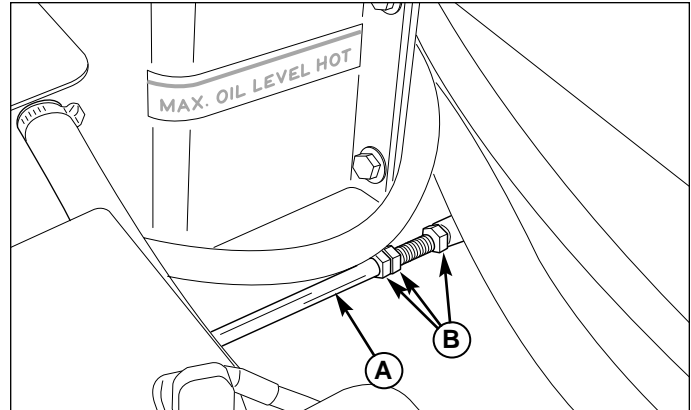

Figure 27. Neutral Adjustment
2. There are three (3) nuts on the linkage rod. The first two are to be used together to turn the rod and the third (towards the rear of the machine) is used to lock the rod in place. Loosen the third jam nut (B, Figure 27) and turn the adjustment linkage (A, Figure 27) to adjust. If the machine creeps forward, turn the linkage CLOCKWISE (while standing at the rear of the machine, facing forward), if the machine creeps backward, turn the linkage COUNTER-CLOCKWISE.
3. Lock the jam nut (B) when neutral is achieved.